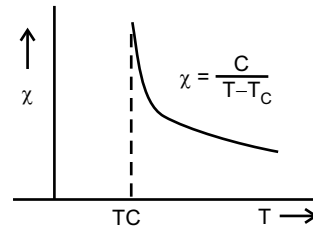

Fig. 16
The temperature above which a ferromagnetic material becomes paramagnet is called as *Curie temperature* given by the relation $\chi = \frac{C}{T-T_C}$. Where χ is the magnetic susceptibility of the material variation of χ with respect to temperature (T) is shown in Fig.16.